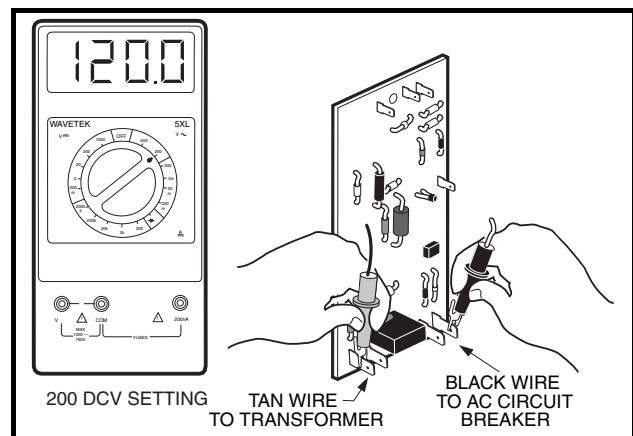

Figure 9-6 AC Circuit Test
3. Place black (–) probe of multimeter, set to 200 volts AC, onto terminal with black AC circuit breaker wire. Connect red (+) probe to terminal from which tan transformer wire was disconnected (**Figure 9-6, Page 9-11**).